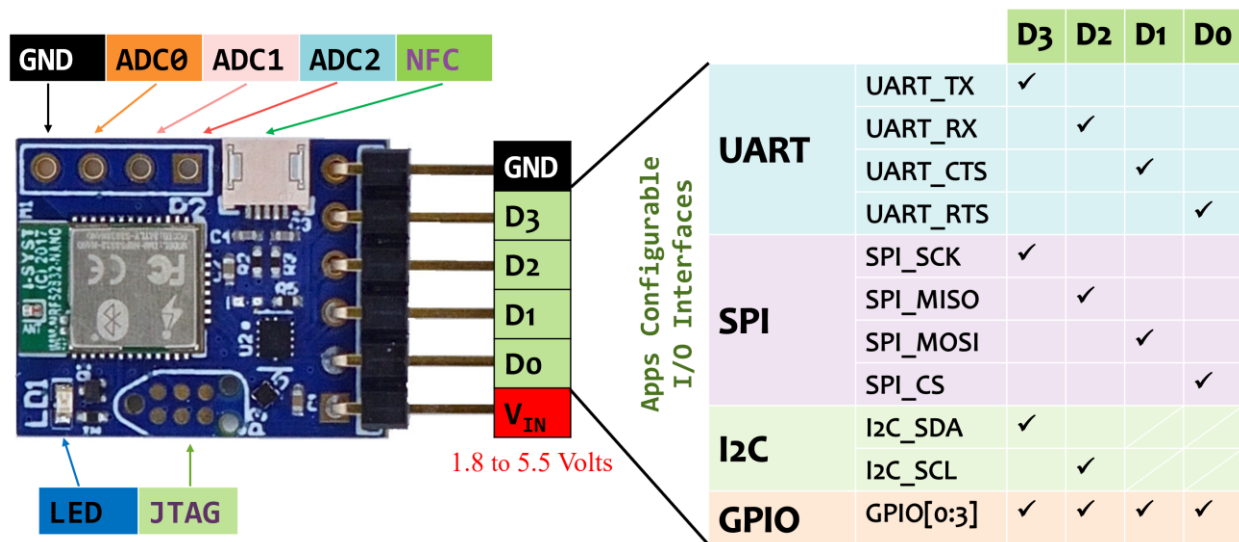

Fig. 2. Pin layout of BlueIO832-Mini on the front side
The pins and connectors layout of BlueIO832-Mini are shown in Figs. 2 and 3.
Depending on the use case and the specifications of the user's target device, pins D1-D4 on BlueIO832-Mini can be configured for UART, SPI, I2C or GPIO by using BlueIOWizard mobile app. Please follow Figs.2 and 3 for the appropriate pin assignment.
(\*): The pins are pre-configured as in Fig. 2.
- (ii) Based on the pin assignment table in Fig. 2, connect the BlueIO832-Mini [D1-D4] pins to the target device UART's pins, as shown in Fig. 5.